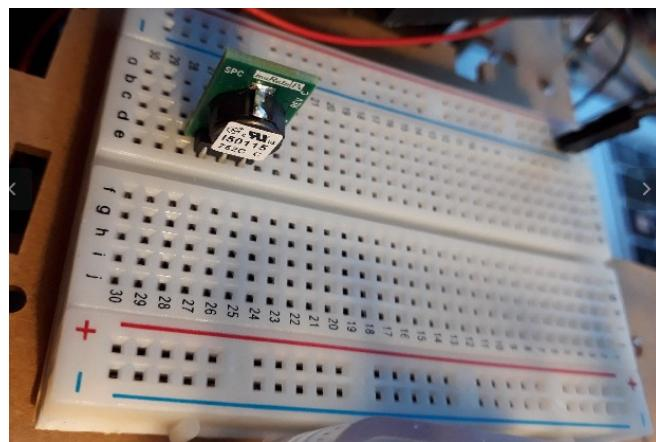
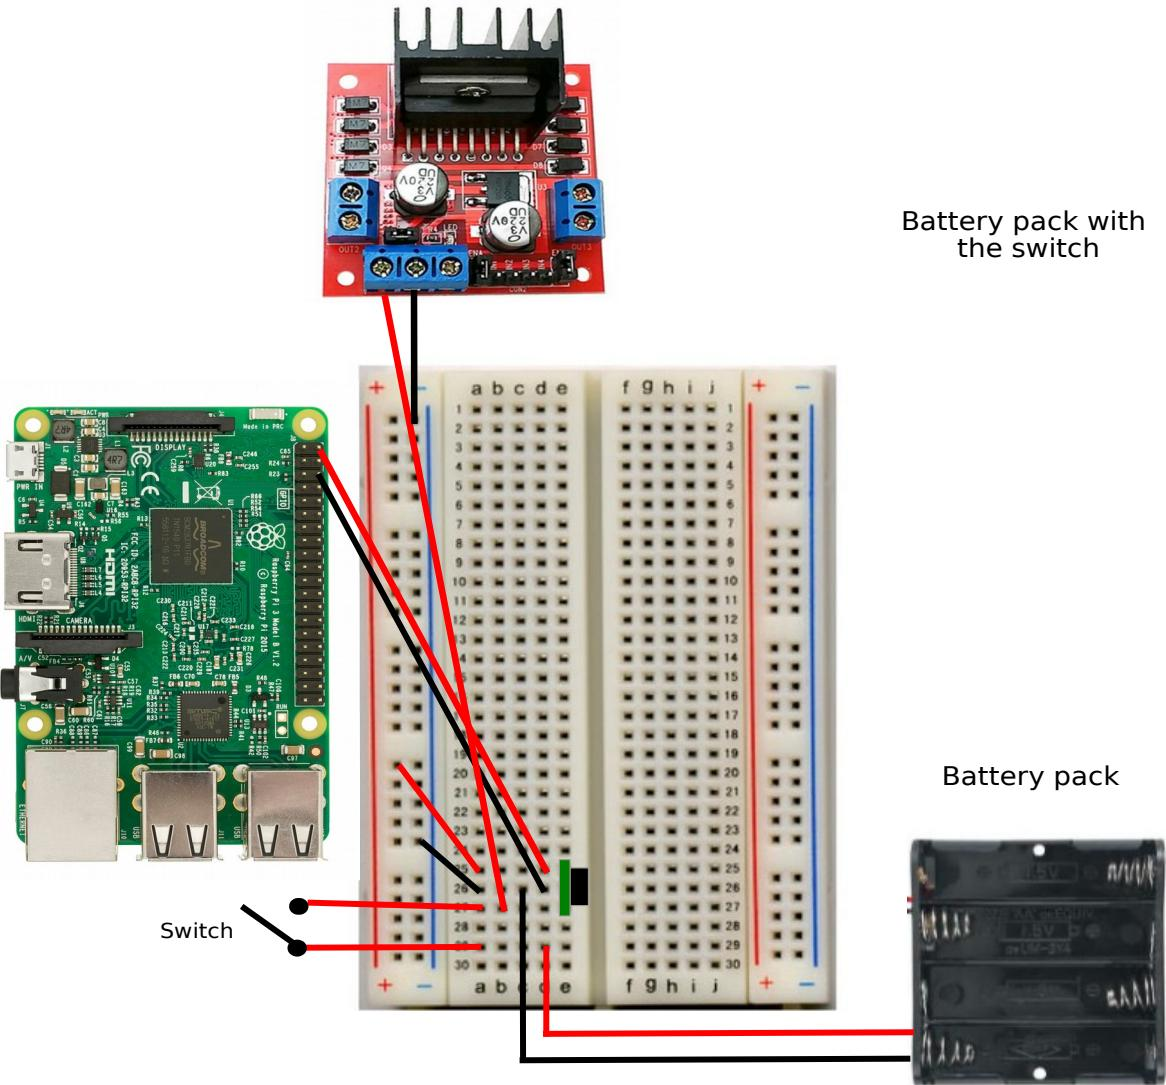
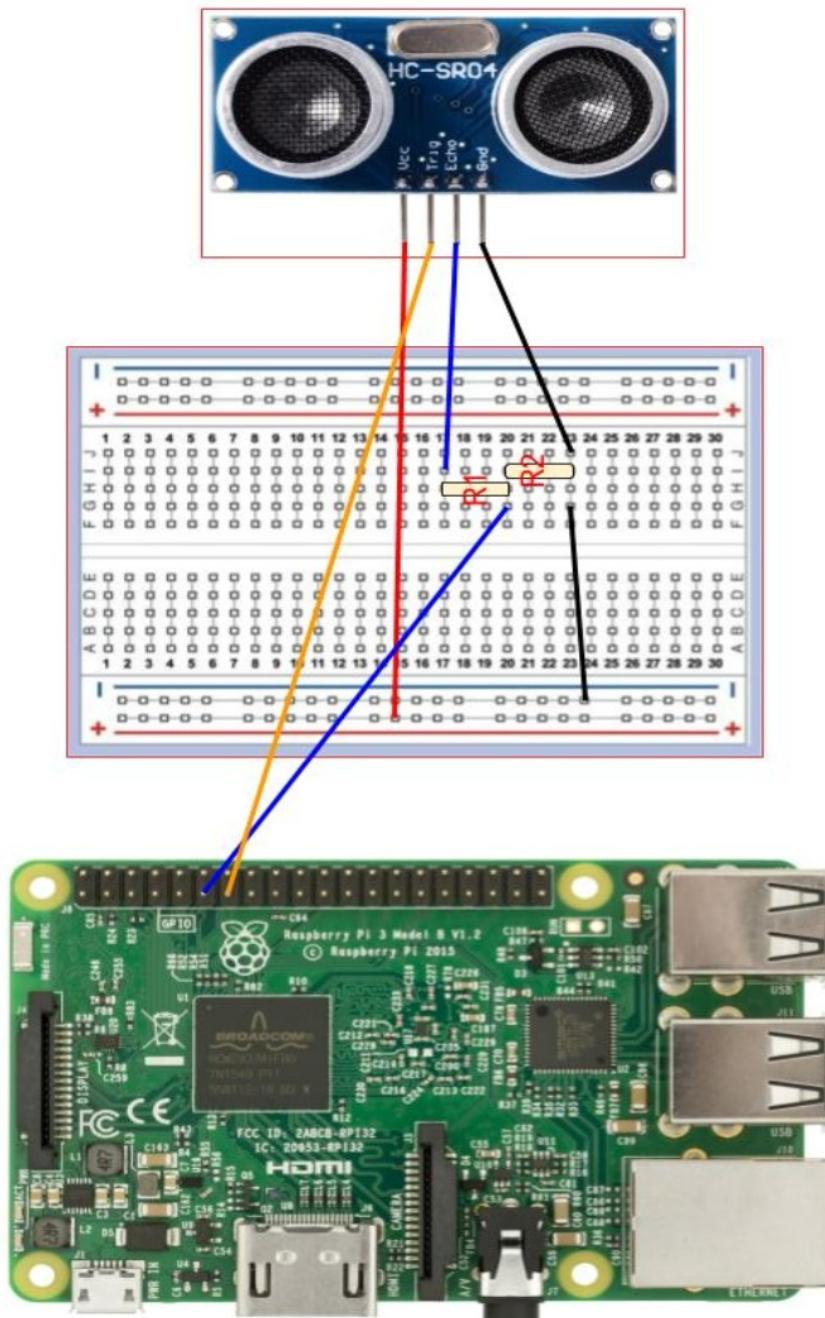

Figure 23: How to mount the voltage regulator on the board.
Figure 24: Circuit diagram for powering the raspberry pi and motors.
Figure 27: Circuit diagram for the ultrasonic sensor
Step 3: Once you have the correct components. First mount the voltage regulator on the board as shown in figure 23. Make sure it is the right way around, and in exactly the same position as shown in the figure. Then connect the wires as shown in figure 24, using the jumper cables.
Step 6: In order to correctly connect the echo sensor, you must first place two resistors, R1 and R2, with resistances of $4.7\text{ k}\Omega$ [color code yellow, purple red, gold] and $10\text{ k}\Omega$ [brown, red, black, black, brown] respectively. The resistors are to be placed onto the breadboard in the positions shown in figure 27. You will have to trim the end of the resistor wires in order to get them to sit flush to the board, as shown in figure 24.
Step 8: Once all the wiring is complete, it should look like the image shown in figure 27. At this point, the wiring is complete and the top plate can be secured with nuts four M3 nuts.